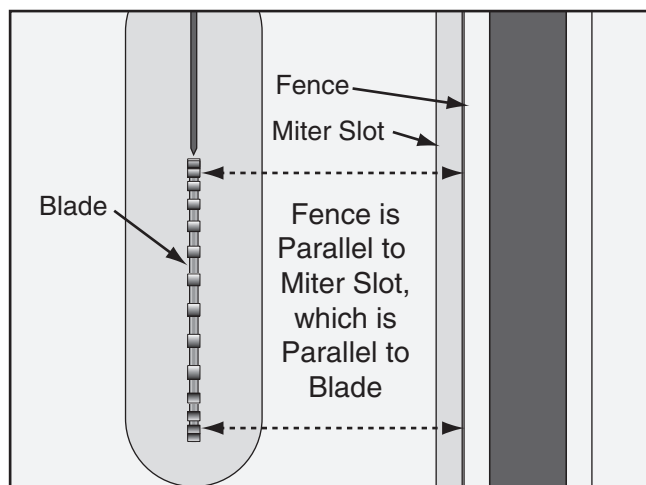

Figure 138. Checking fence parallelism with blade.
- Slide the fence up against the right hand edge of the miter slot, lock it in place, then raise the blade above the insert. Using a fine ruler, examine how the fence lines up with the miter slot and the blade, as shown in **Figure 138**.
- If the fence and miter slot are parallel with the blade, as shown in **Figure 138**, no further adjustments need to be made.
5. Rotate the blade 180° and recheck the distance between the fence and the blade tooth you marked in **Step 4** to ensure they are parallel (see **Figure 138** on **Page 71**).